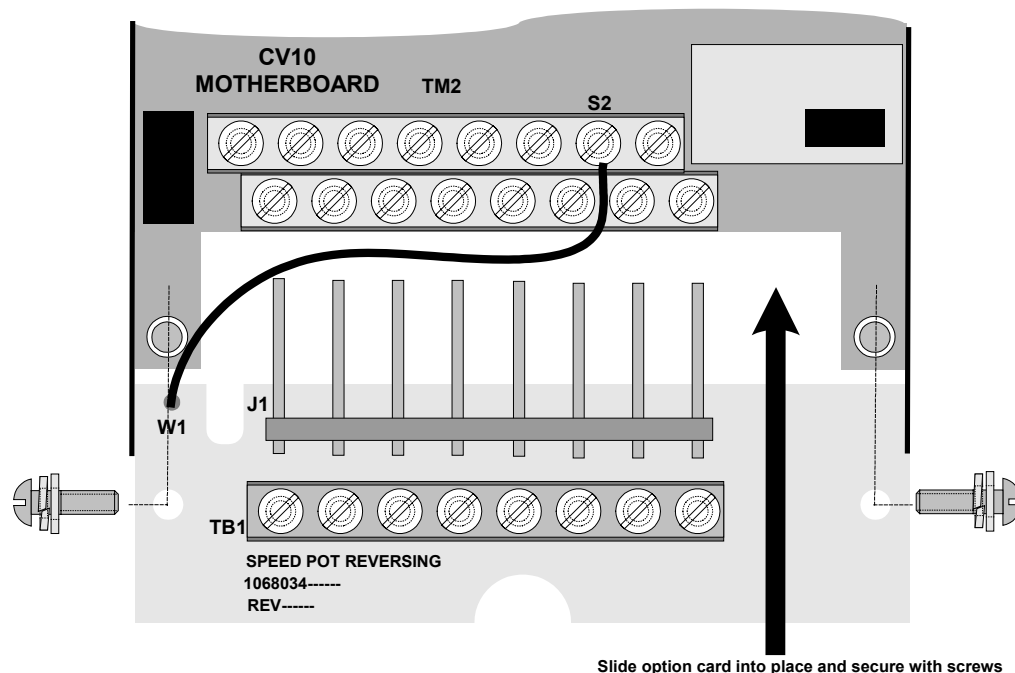

Fig. 1 Product Appearance and Assembly
Turn off all power to the equipment being worked on. Referring to **Fig.1**, the option card is mounted inside the inverter directly to the **CV10** control board. Referring to the **CV10** Manual, remove the terminal cover of the **CV10** and remove the (2) assembly screws and washers from the front of the **CV10** control board. Next, slide the hardpin connections **J1**, of the option card, into the **CV10** control board terminals of **TM2**, as shown. Align the assembly holes, and secure with the assembly screws. **Important!** Tighten the **TM2** terminal screws of the **CV10** so that the hardpins of **J1** on the option card are secure. Connect the **W1** lead from the option card, to the **S2** terminal of **TM2** on the **CV10**, and secure.